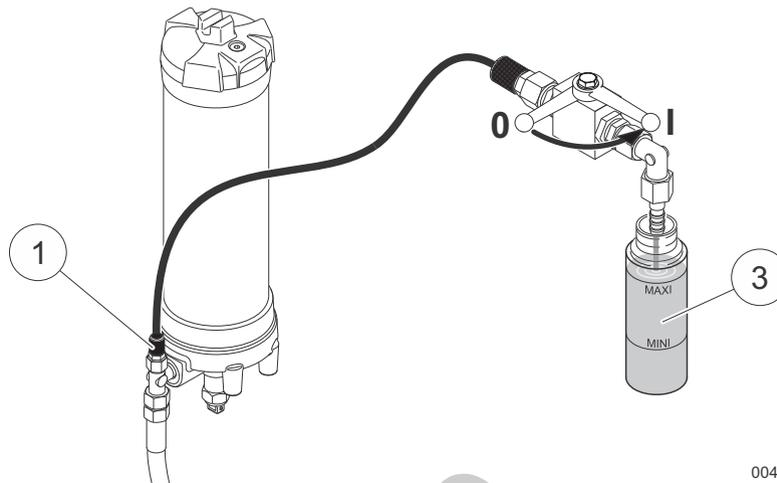

Fig. 246 Taking hydraulic oil sample
7	Open a new, clean sample container (3) in Fig. 246 and fill it to the MAX mark with hydraulic oil. Make sure the sample container or closure do not become contaminated.
10	Cover the measurement connection (1) in Fig. 246 with the protective cap.